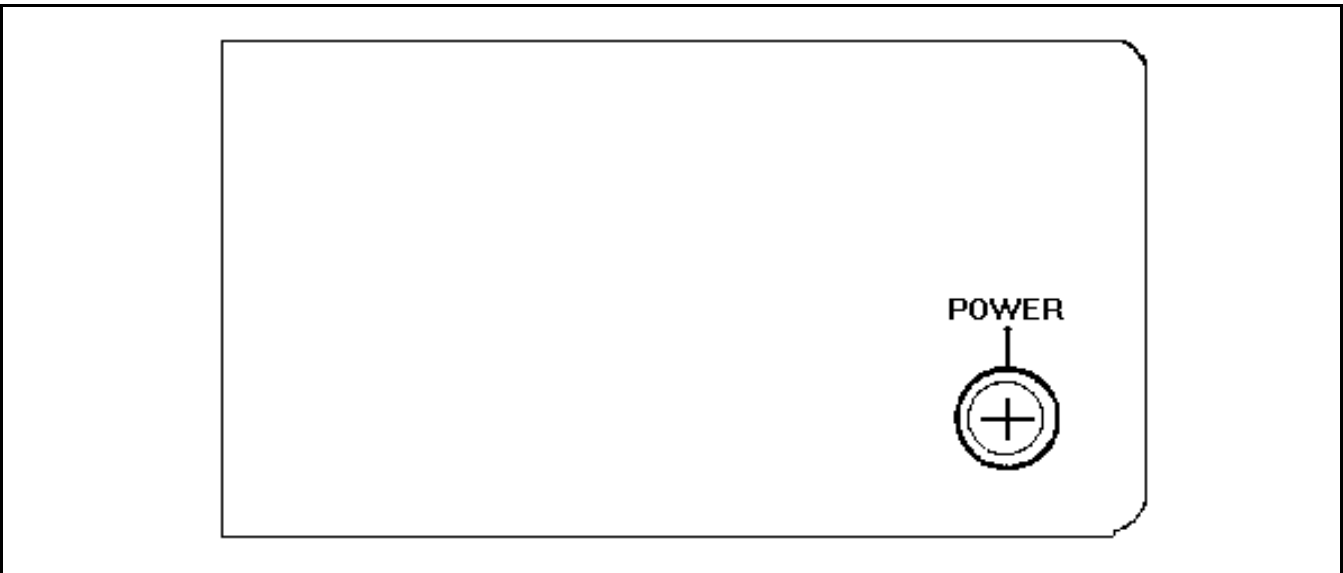

Figure 4 - Control Panel with Single LED Power Indicator
- 1. **Standard Desk Top Station, without Options** - The standard station has only a single red LED to indicate when the power supply is ON (see Figure 4).